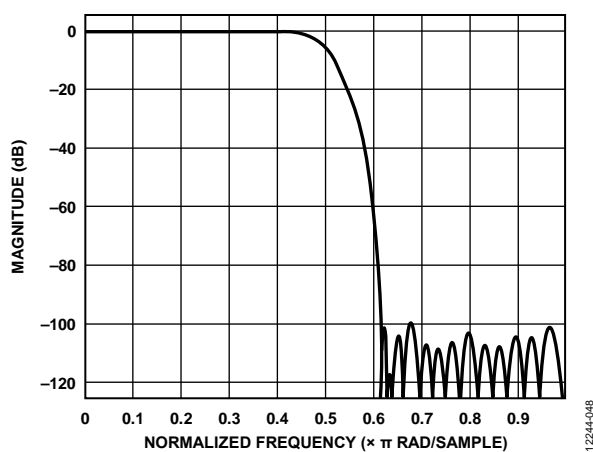

Figure 88. HB1 Filter Response
The decimate-by-2, half-band (HB), low-pass FIR filter uses a 55-tap, symmetrical, fixed coefficient filter implementation, optimized for low power consumption. The HB filter is enabled when the DDC is selected. Table 10 and Figure 88 show the coefficients and response of the HB1 filter.